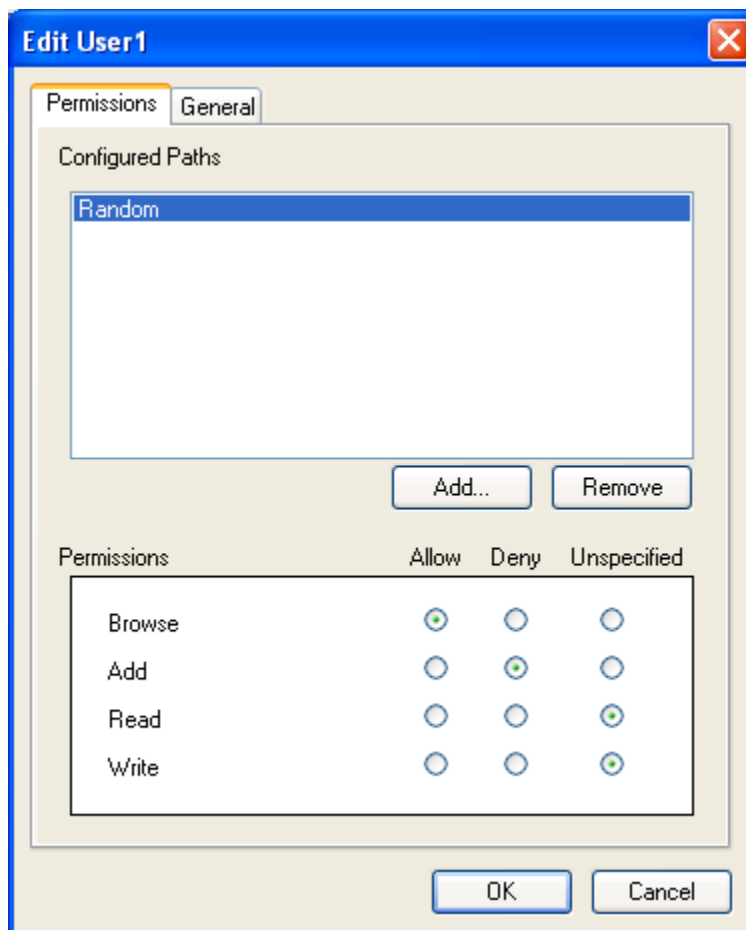

Figure 50 - Edit <Username>: Example
5. The selected path or item will be listed in the **Configured Paths** screen section of the **Edit User** window. Permissions can now be assigned, as in the example depicted in Figure 50.